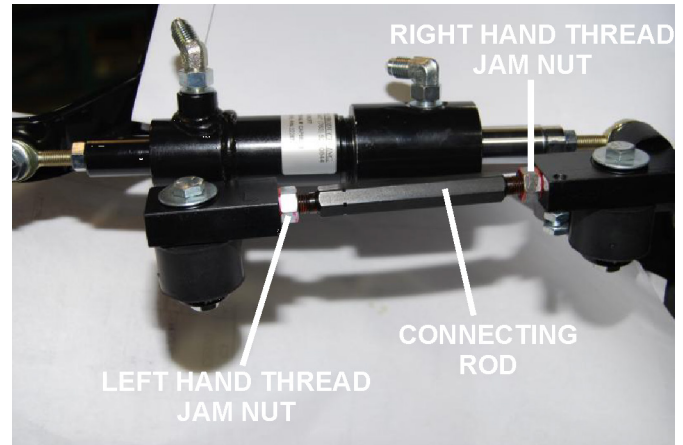

Figure 39. Adjusting Right Side Trowel Speed
3. Adjust trowel arm connecting rod on the pump actuating lever and tighten jam nuts (Figure 39).